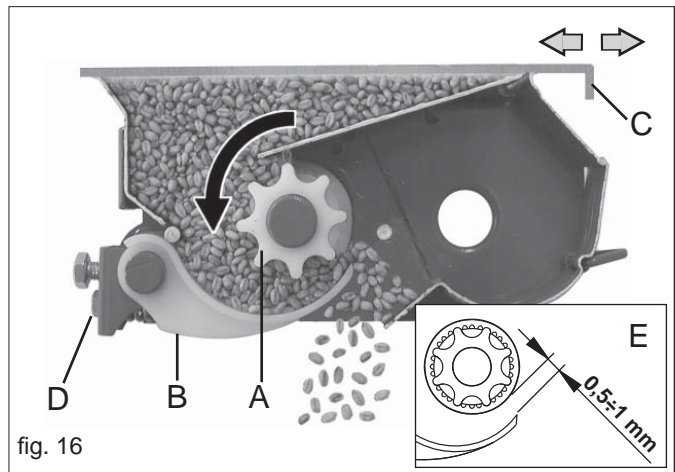

fig. 16
When the botton plate (B Fig. 16) are correctly positioned they ensure smooth and steady distribution of the seeds.
- 3) using screw (D), adjust the distance between the feeler pin and the distributing roller to between 0.5 and 1 mm (E Fig. 16).
The seed gates for (C Fig. 16) closing off the seed flow from the hopper have two positions: